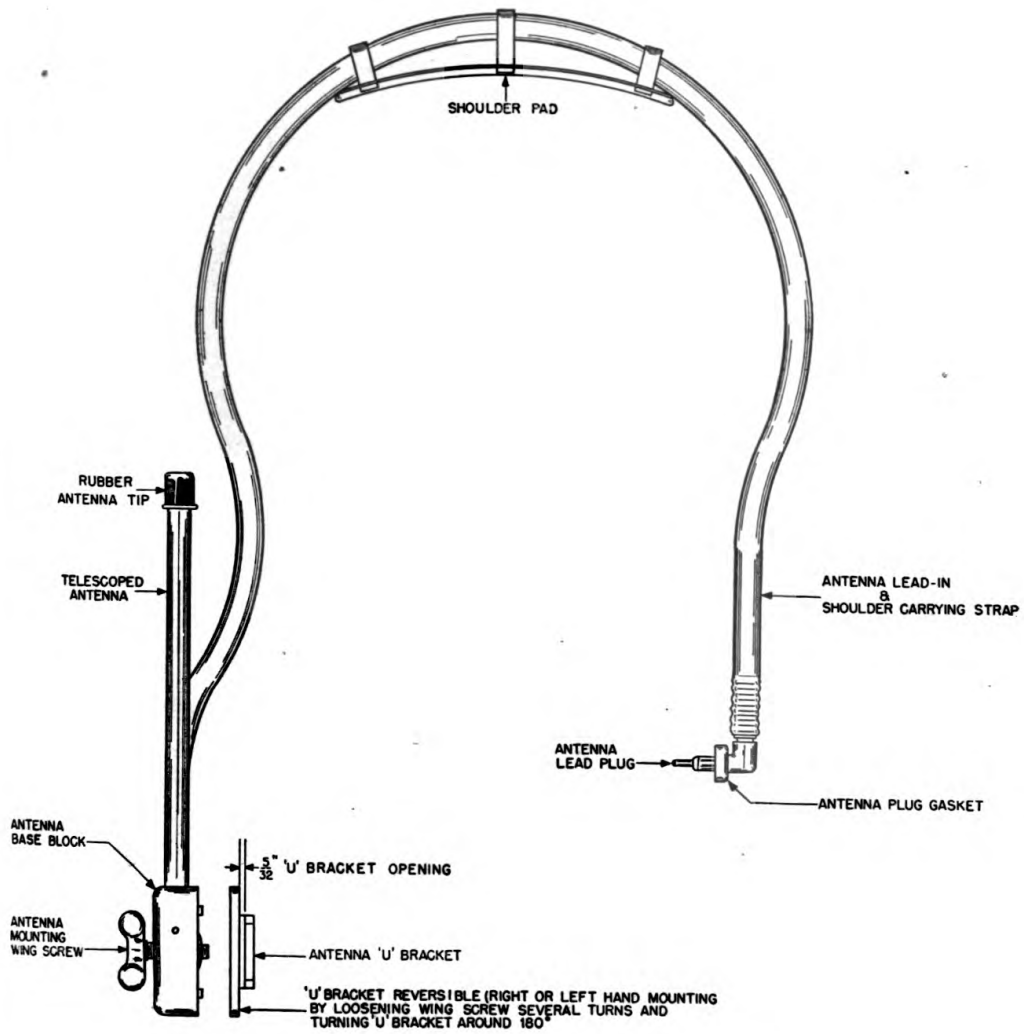

FIGURE 4—ANTENNA AN-75-A, DETAIL
a. Antenna AN-75-A.—Antenna AN-75-A contains nine sections which extend to a height of seven feet. A lead-in attached to the antenna base also has attached to it a U-shaped bracket with a locking wing screw for holding the antenna to the radio receiver housing or to a vehicle. The antenna may be mounted on either the right or left hand side of the vehicle. The base of the antenna is so constructed that the “U” bracket may be rotated 180 degrees by loosening the wing screw, thus providing for either right or left hand mounting. (See Figure 4.) The lead-in is threaded through a leather shoulder pad for carrying Radio Receiver BC-728-A.
- (1) Green ball sinks when approximately 10% of the battery capacity has been discharged.
- (2) White ball sinks when 50% capacity has been discharged.
- (3) Red ball sinks when battery is 90% discharged.
b. Antenna.—Clamp Antenna AN-75-A under the hood of the vehicle or to some support close enough to the radio to permit the antenna lead-in reaching the radio set. (See Figure 4.) Tighten the thumb screw. The “U” bracket on the base of the antenna is reversible, so that the antenna may be mounted on either the right or left hand side of the vehicle. To reverse the “U” bracket, loosen the large thumb screw and turn the “U” bracket around 180 degrees.